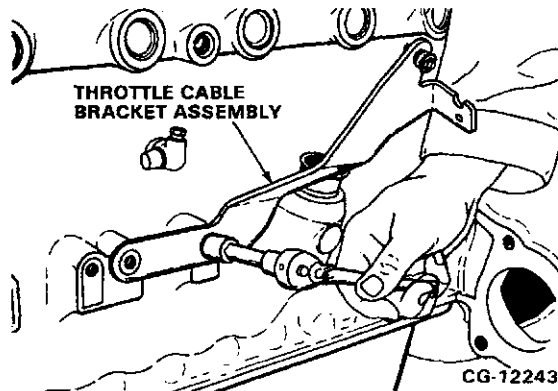

Figure 11.119. Remove the Throttle Cable Bracket Assembly
3. Remove the throttle cable bracket assembly from the crankcase. Refer to Figure 11.119.